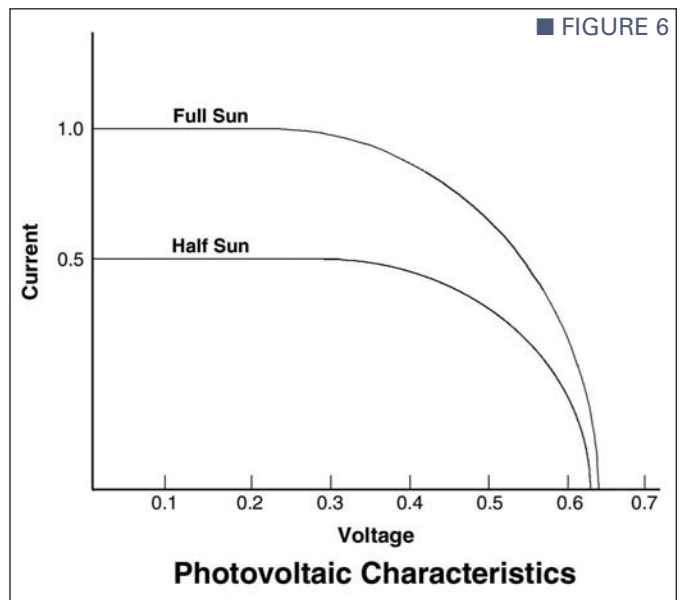
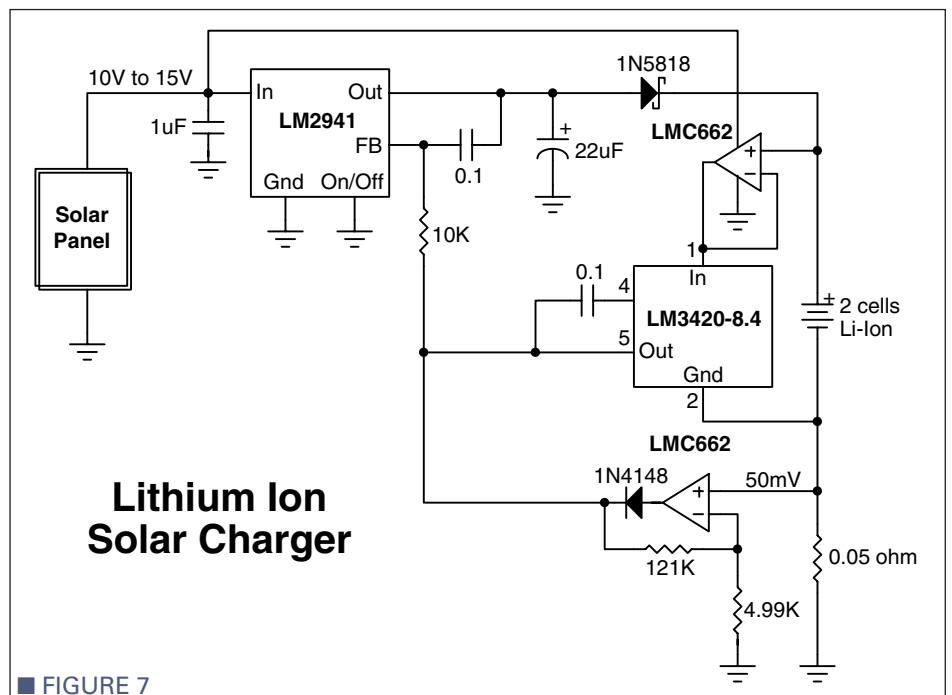

FIGURE 6
FIGURE 7
**A** Your power source requires a charger with high efficiency and a range of input variables — one that includes long periods of no power and varying current. The output current is proportional to the intensity of the light falling on the solar cells, whereas the voltage remains more or less constant (Figure 6). The ideal battery charger for this situation would be a low dropout regulator controlled by a lithium-ion battery charge controller (Figure 7).